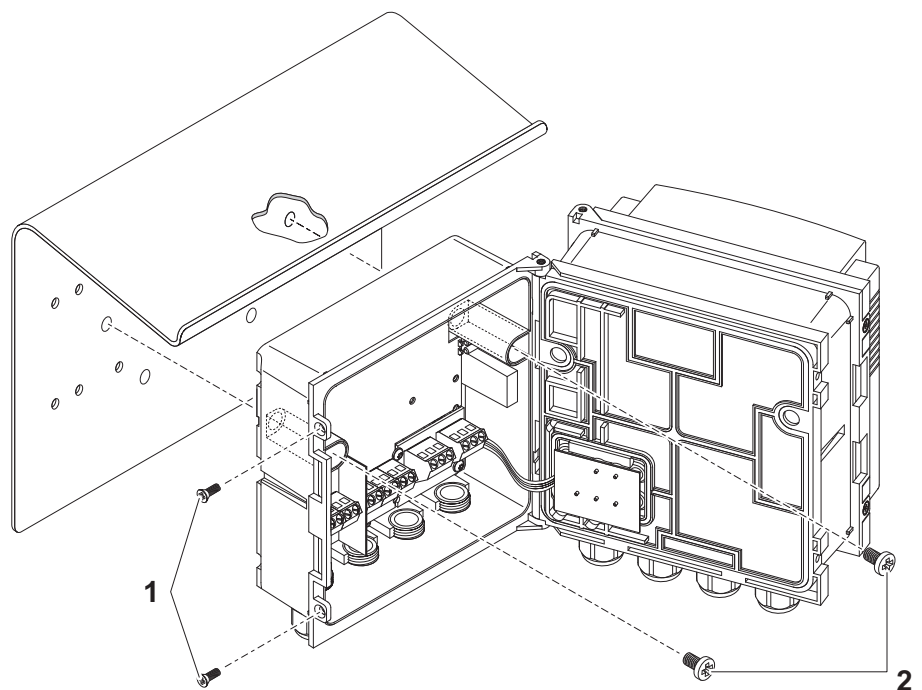

Fig. 3-18 Mounting the DIQ/S 182-XT-4 with sun shield SD/K 170
1	Remove the two countersunk screws (pos. 1 in Fig. 3-18) and swing open the module lid.
2	Position the DIQ/S 182-XT-4 on the sun shield and fix it into place with the two screws (pos. 2 in Fig. 3-18).
3	Close the lid and fix it with the two countersunk screws (pos. 1 in Fig. 3-18).